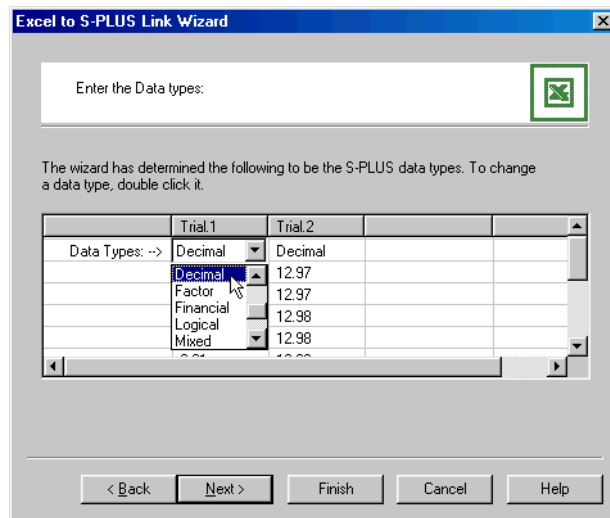

Figure 10.5: *Selecting a different column type.*
6. The second page of the wizard gives you an idea of what the S-PLUS data frame will look like (see Figure 10.5).